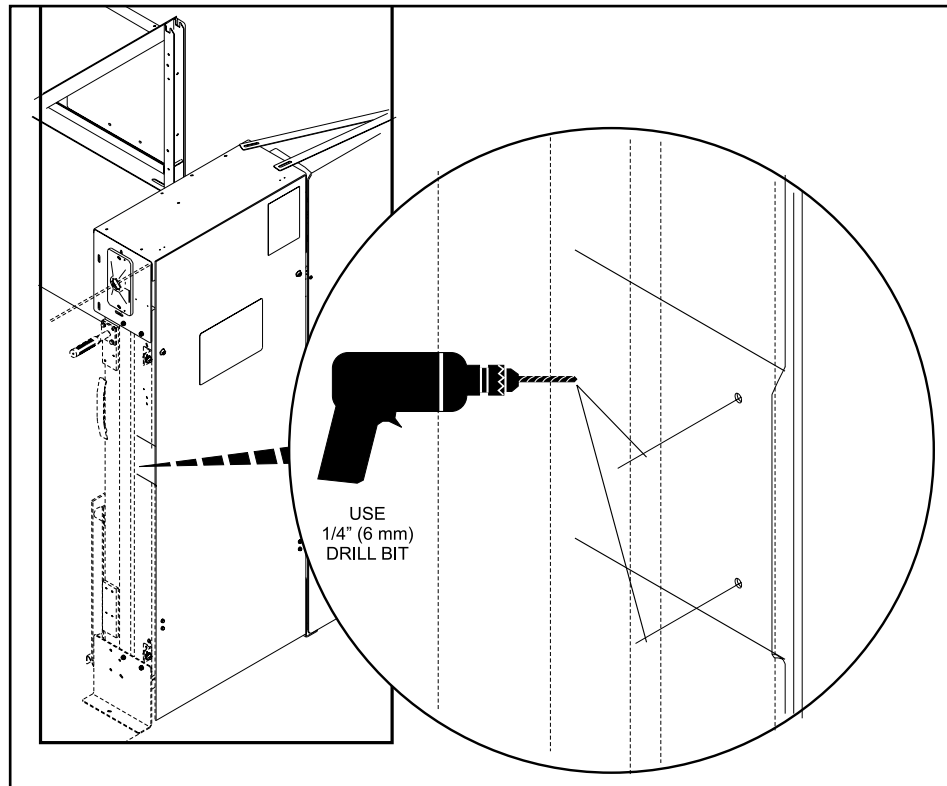

Figure 6
1. Drill 1/4" Diameter thru holes at marked mounting hole locations on elevator. *Figure 6.*